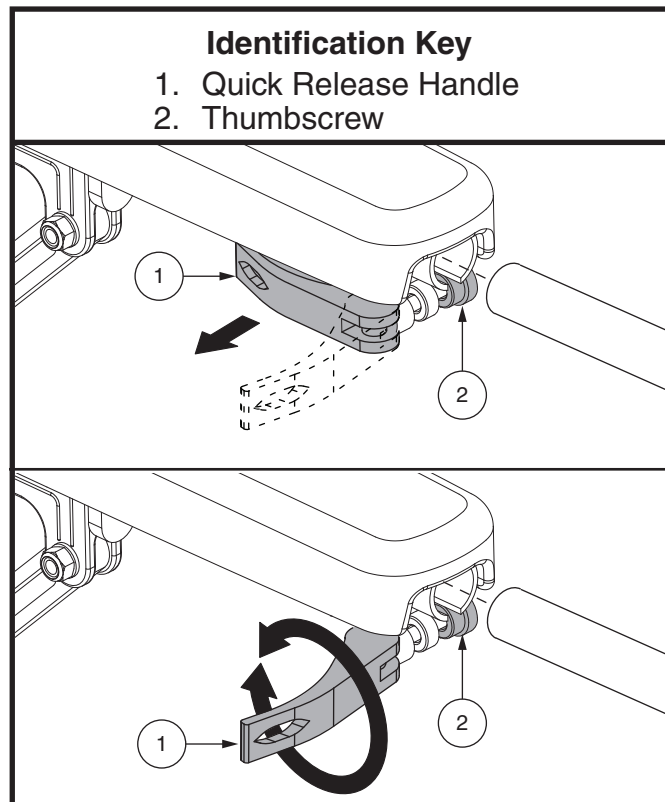

Figure 5. Armrest Component Removal/Installation
4. Insert the controller into the armrest and tighten the thumbscrew, then latch the quick release handle. **See figure 5.**
3. Unlatch the quick release handle and loosen the thumbscrew, and then remove the controller from the armrest. **See figure 5.**